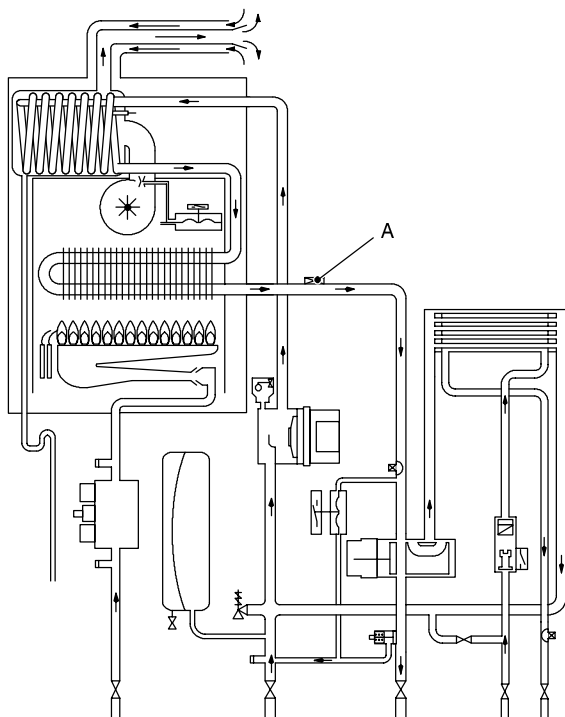
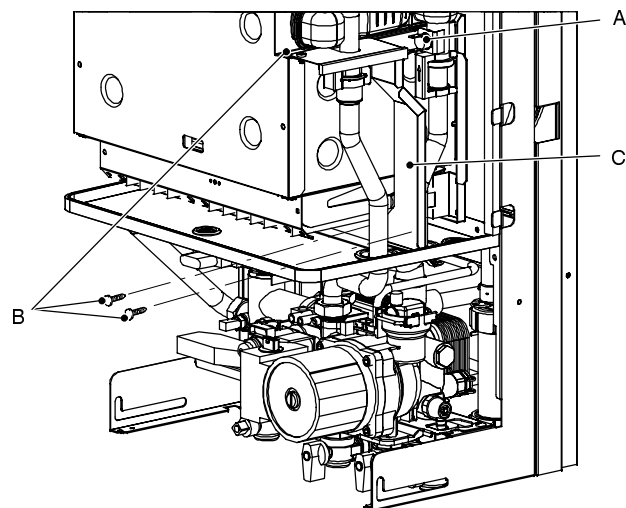

Fig. 77
Fig. 78
- 3 Remove the plate C (see Fig. 78 on page 37).
The safety thermostat *A* in Fig. 77 and Fig. 78 is a device that senses the temperature of the primary circuit water which flows in the outlet pipe of the primary heat exchanger.
- 2 Remove the screws *B* and the plate *C* (Fig. 78).
- 2 Remove the screw *B* and the plate *C* (Fig. 78).